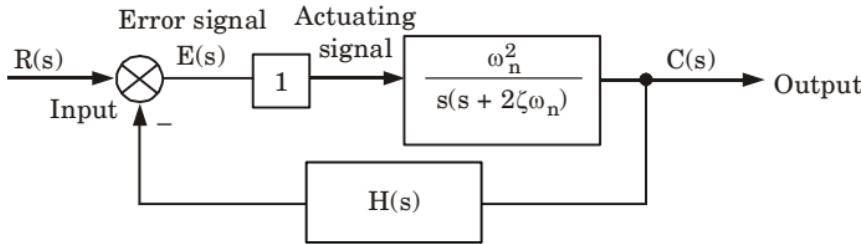

Fig. 2.20.1.
3. For the system considered as shown in Fig. 2.20.1, the actuating signal is proportional to the error signal, therefore, the system is called proportional control system.
4. Consider a second order system where controller input is error itself and proportional constant is $K = 1$ as shown in Fig. 2.20.1.